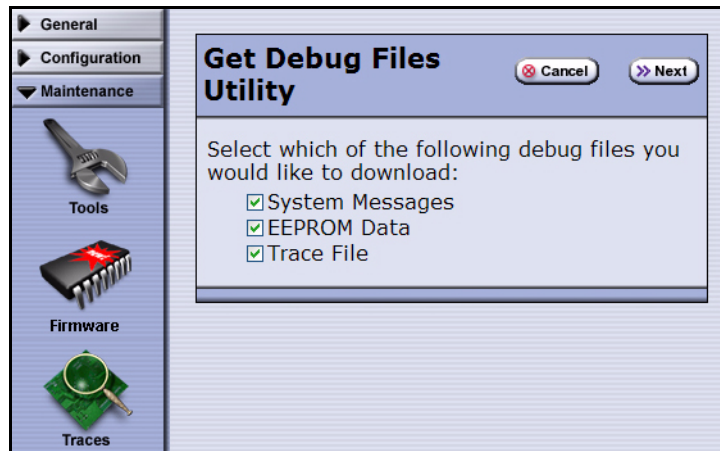

Figure 2-8 The Get Debug Files Utility screen.
4. Select **Run**. The Get Debug Files Utility screen appears (Figure 2-8).